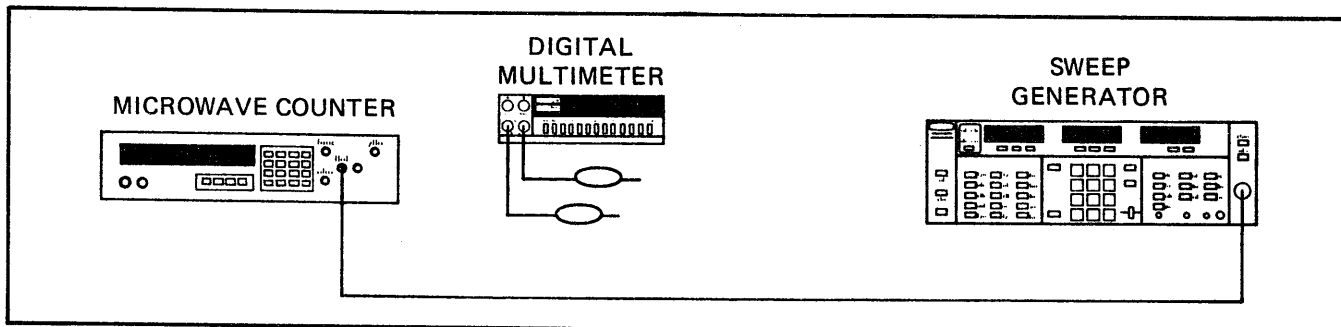

Figure 5-23. Test Equipment Setup for Frequency Calibration
- a. Set up test equipment as shown in Figure 5-23, and turn the equipment on.